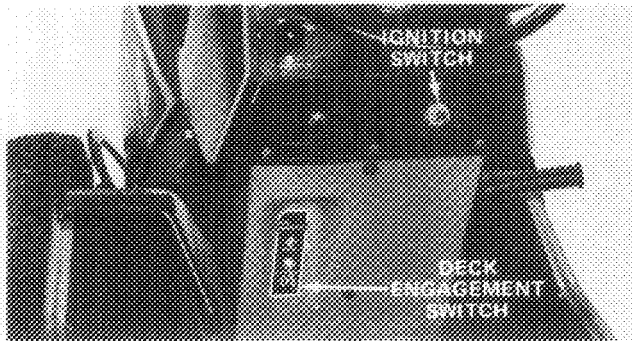
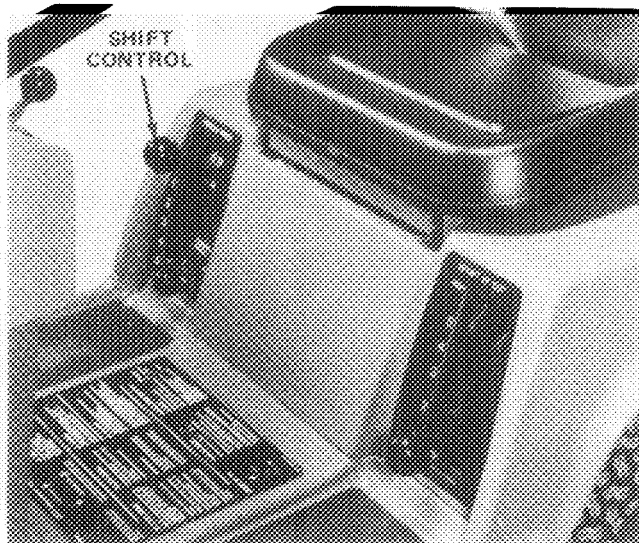

Figure 39
Figure 40
2. Move deck engagement switch (Fig. 39) to the ENGAGE position. Rotate the ignition key to START. Engine should not crank. If engine cranks, the interlock system is malfunctioning and it must be repaired by an Authorized TORO Service Dealer. If engine does not crank, proceed to step 3.
3. Move deck engagement switch to DISENGAGE position (Fig. 39), push clutch in and place shift control into one of the gear selections (Fig. 40). Rotate the ignition key to START. Engine should not crank; but if it does, the interlock system is malfunctioning and it
4. Move shift control (Fig. 40) into neutral and deck engagement switch (Fig. 39) to DISENGAGE position. Engage the parking brake to prevent movement of the tractor. Rotate ignition key to START position and start engine. Place the deck engagement switch in ENGAGE position and carefully raise off the seat: the engine should stop running. If engine does not stop running, shut engine off and have interlock system repaired by an Authorized TORO Service Dealer. If engine shuts off when you raised off seat, the interlock system is functioning correctly.